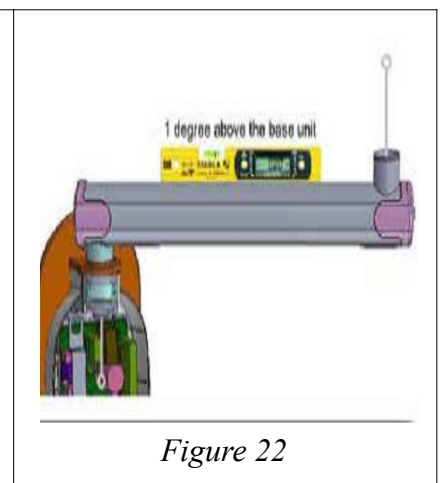

Figure 22
- Connect the Ground wire (Straight Arm) to the ground point as shown in Figure 22 (A) and Figure 22 (B)